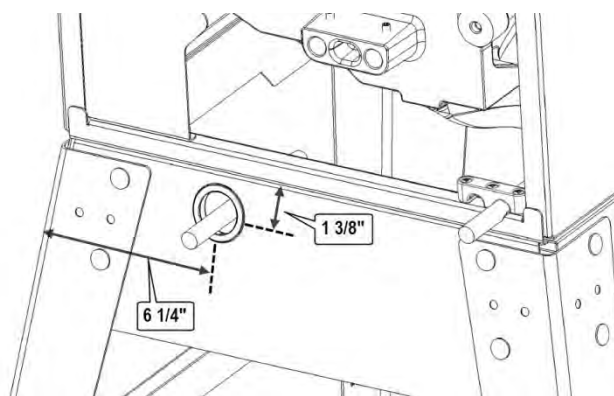

Fig. 3
12. If your CNS saw is mounted on the CNS stand, it is necessary to create a 2" diameter hole in the rear panel of the stand. The center point of the hole should be located as shown in **Fig. 3**. SawStop recommends using a 2" hole saw to form the hole in the rear panel. Finally, snap the supplied 2" grommet (257) into the hole and feed the cord from the motor through the grommet then reconnect it with the motor power cord.